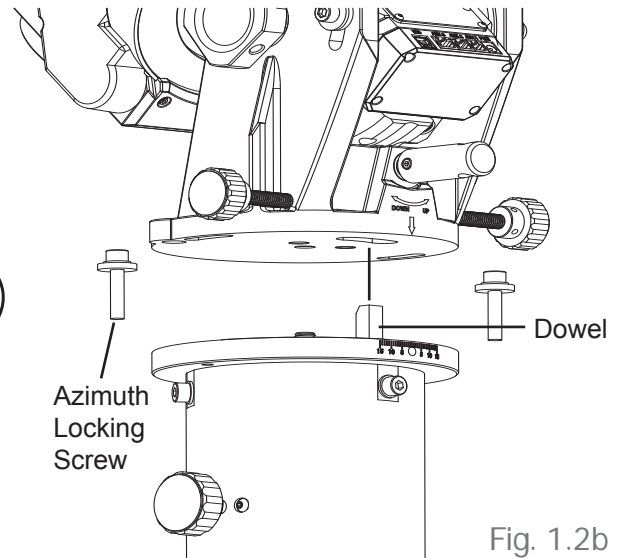

Fig. 1.2b
2. Align the metal dowel on the tripod top with the gap between the two azimuth adjustment knobs; and then put the mount on the tripod top. (Fig 1.2b)